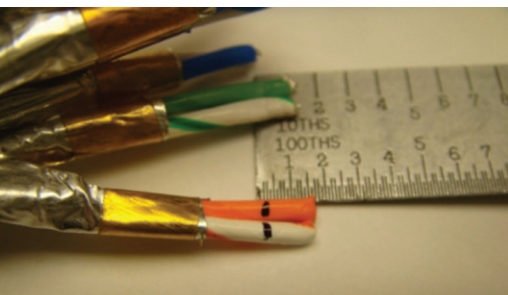

Figure 16: Marking each conductor
10. Measure and mark each conductor 0.15 inch from the end (Figure 16).